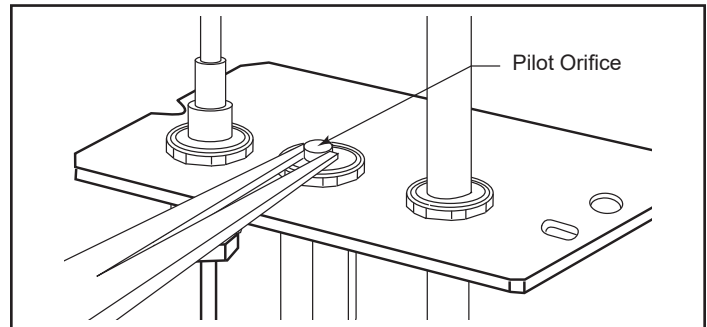

Figure 56 - Remove pilot orifice.
- Remove pilot orifice with needle-nose pliers. (Figure 56) **NOTE:** Use a wrench to hold pilot tube in place while removing the orifice.